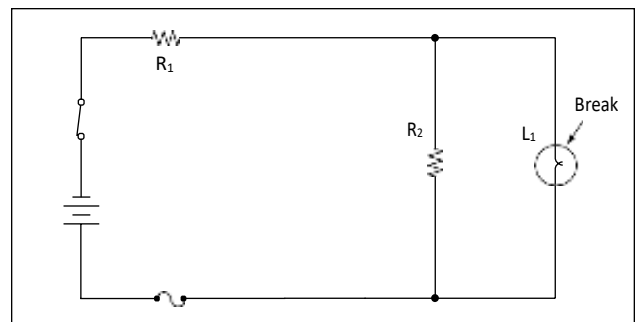

Figure 10-180. An open lamp in a series-parallel circuit.
3. If the open occurs in the branch containing the lamp, as shown in Figure 10-180, the circuit will continue to function with increased resistance and decreased current, but the lamp will not light.